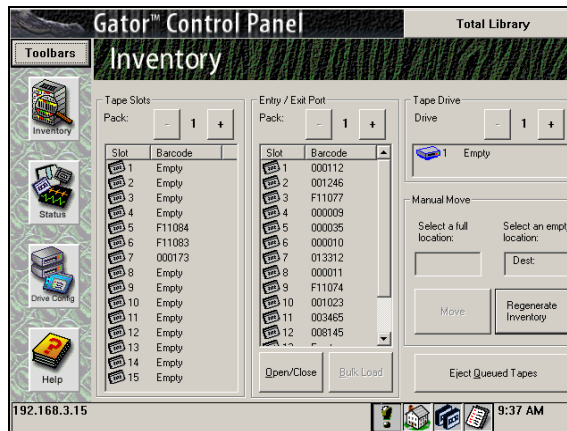

Figure 9-3 Inventory screen.
1. From the General Status screen, tap **Inventory**. This brings up the Inventory screen (Figure 9-3).